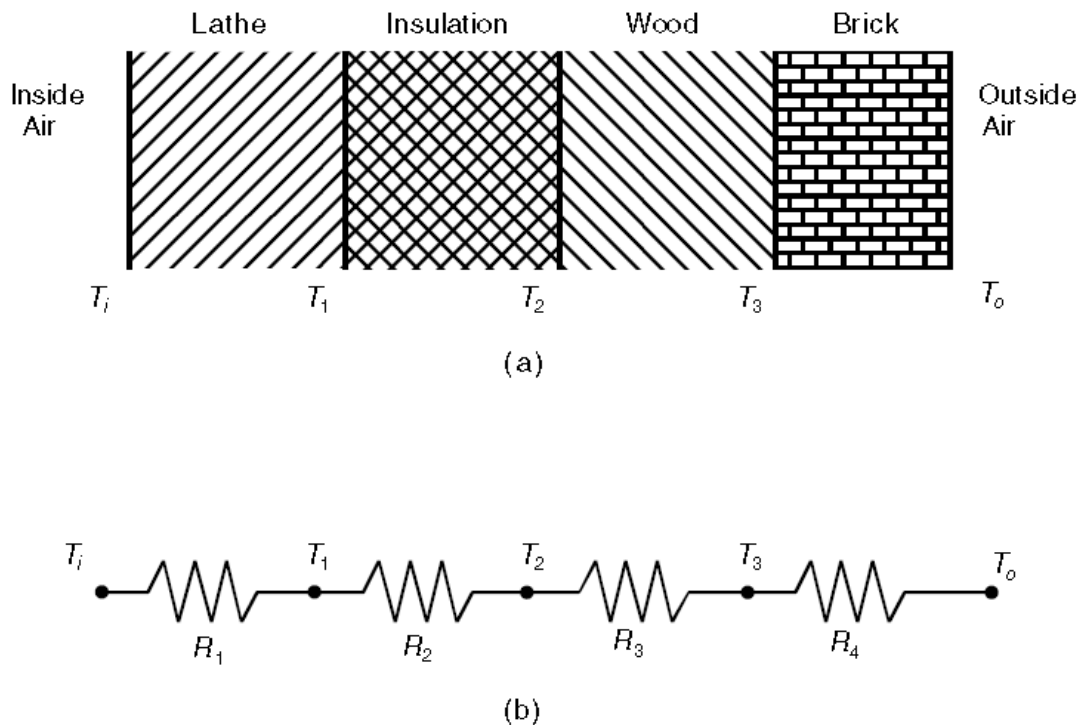

Figure 2. The schematic for P1-4.
Engineers must be able to predict the rate of heat loss through a building wall to determine the heating system requirements. They do this by using the concept of thermal resistance R , which relates the heat flow rate q through a material to the temperature difference ΔT across the material: $q = \Delta T/R$. This relation is like the voltage-current relation for an electric resistor: $i = v/R$. So, the heat flow rate plays the role of electric current, and the temperature difference plays the role of the voltage difference. The SI unit for q is the watt (W), which is 1 joule/second (J/s). The wall shown in Figure 2 consists of four layers: an inner layer of plaster/lathe 10 mm thick, a layer of fiber glass insulation 125 mm thick, a layer of wood 60 mm thick, and an outer layer of brick 50 mm thick. If we assume that the inner and outer temperatures T_i and T_o have remained constant for some time, then the heat energy stored in the layers is constant, and thus the heat flow rate through each layer is the same. Applying conservation of energy gives the following equations.